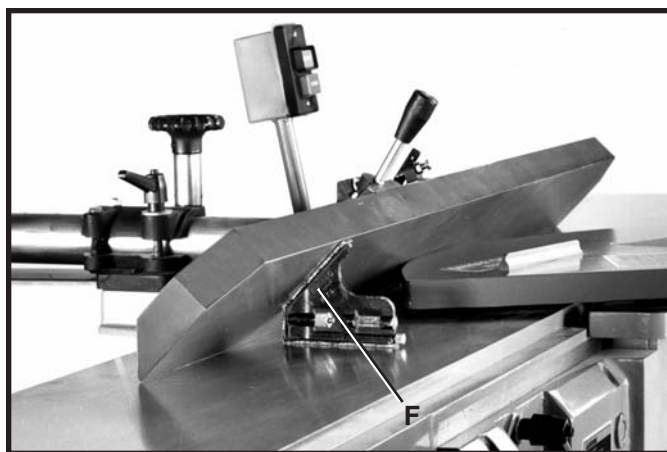
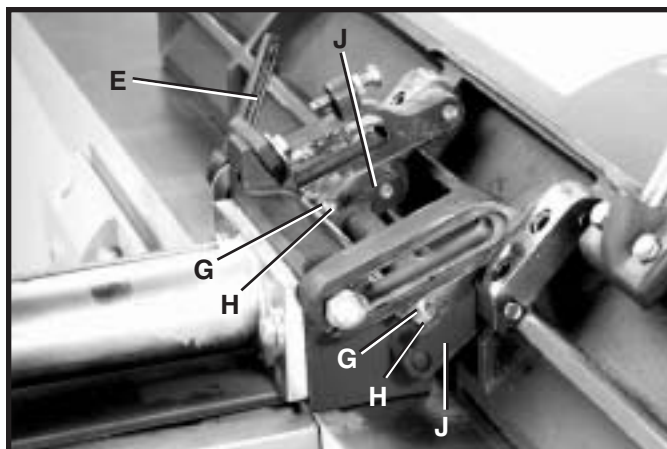

Fig. 24
Fig. 25
4. Tilt the fence inward as far as possible and using a combination square (F) Fig. 24, check to see if the fence is tilted inward 45 degrees to the table, as shown. If an adjustment is necessary, loosen nuts (G) Fig. 25, and adjust screws (H) until ends of screws (H) contact brackets (J) when the fence is at 45 degrees to the table.